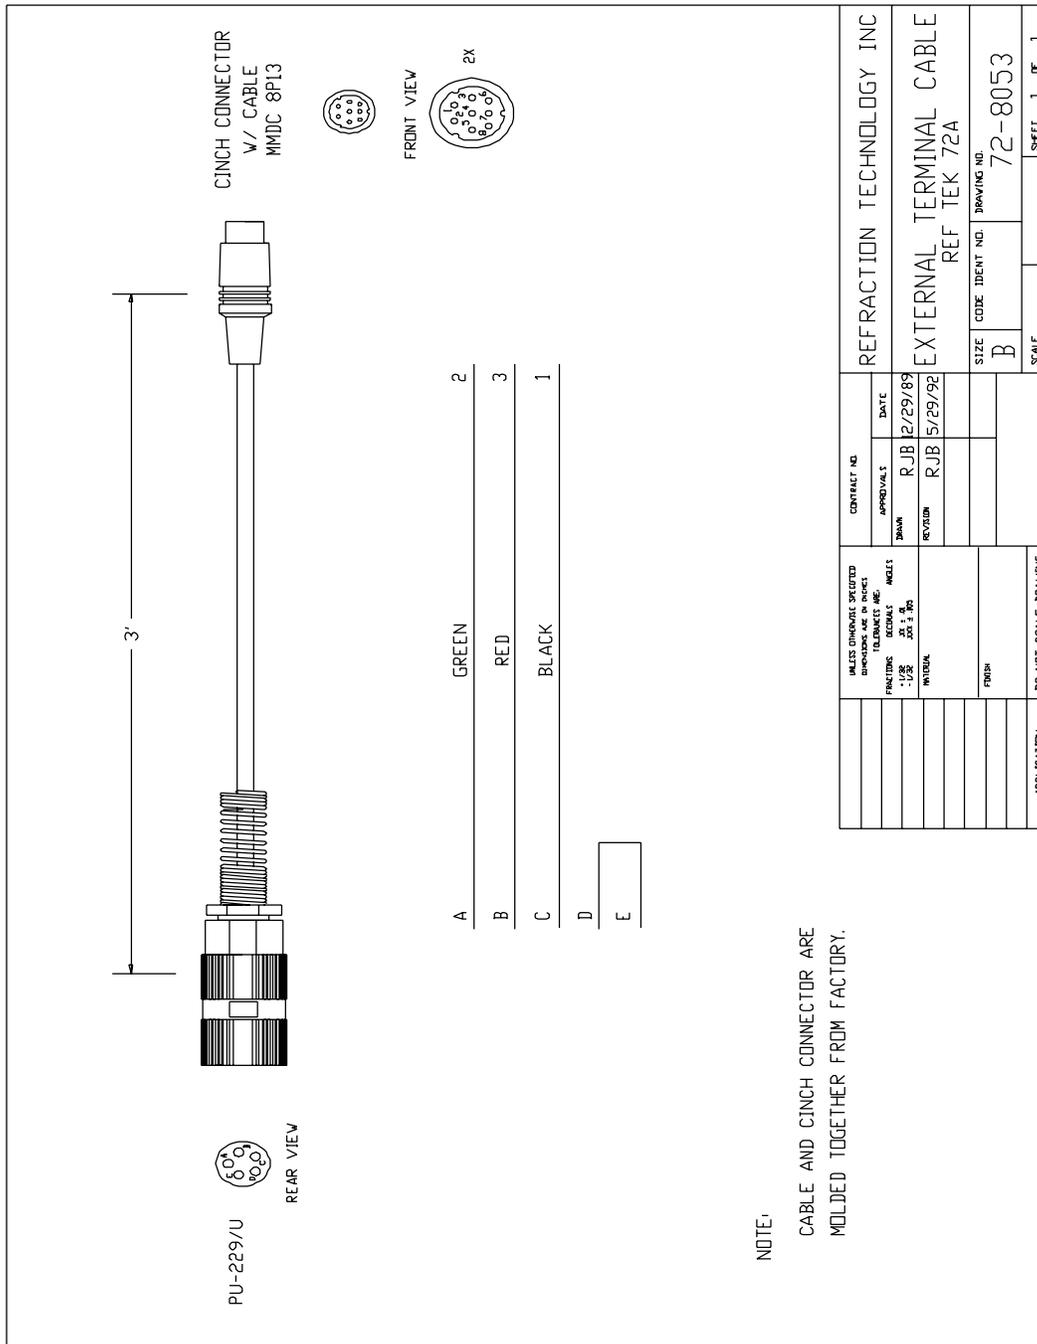

Figure 4 REF TEK 72-8053 Hand Terminal-to-72A DAS Cable
- * Secure the U229/U connector on the REF TEK 72-8053 Hand Terminal-to-72A DAS cable to the terminal connector on the DAS unit's faceplate. Figure 4 provides a schematic of the 72-8053 cable.